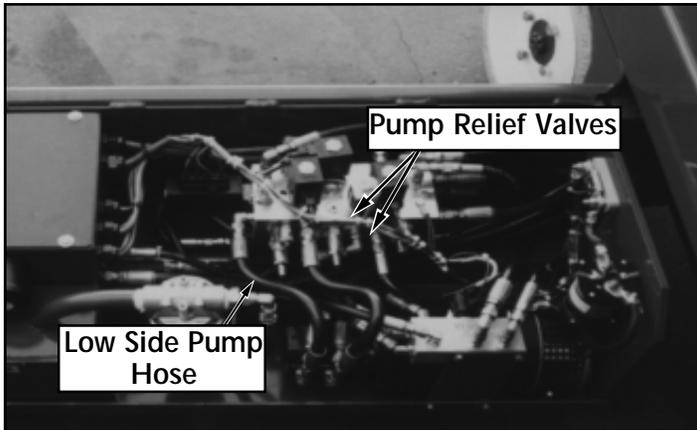

Figure 4-7: Pump Relief Valves
PUMP RELIEF VALVES (Figure 4-7)
4.6 Switch Adjustments**TILT SENSOR (Figure 4-7)****Introduction**